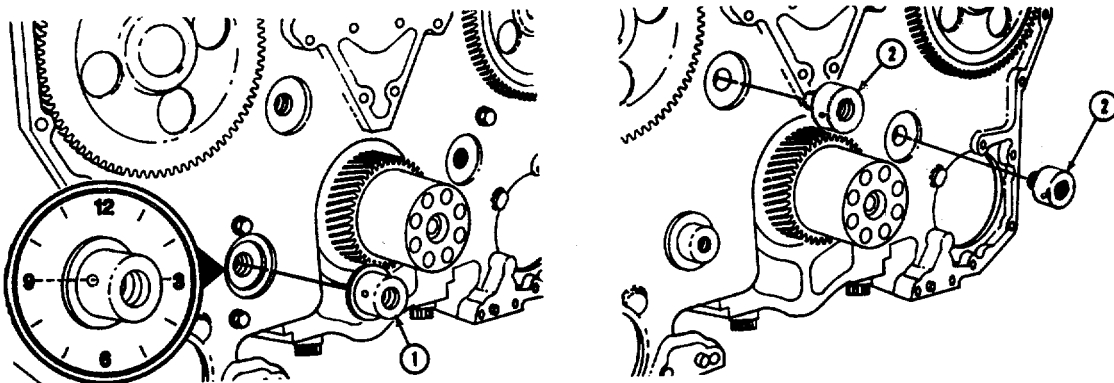

FIGURE 4-92. Idler Shaft Installation.
- The water pump idler shaft (1, FIG. 4-92) must be installed so that the oil holes on the outside diameter of the shaft are at the 3 o'clock and 9 o'clock positions. If the oil holes are not in the correct position, failure will result due to lack of lubrication to the bushings. The two camshaft idler shafts (2) should be installed with the holes in the same position as the water pump idler shaft.
- (1) Install water pump idler shaft (1). Rotate shaft until holes are at 3 o'clock and 9 o'clock positions as shown in FIG. 4-92.
- (2) Install two camshaft idler gear shafts (2). If a shaft does not stay within the block, verify parts are within specification. FIG. 4-92. Idler Shaft Installation.